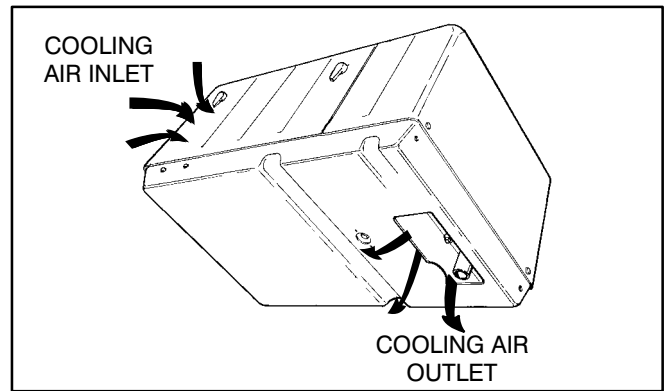

FIGURE 3. GENSET COOLING AIR INLET AND OUTLET OPENINGS
3. Locate or shield the genset cooling air openings (Figure 3) from direct rain, road splash and debris thrown up by the road wheels.
6. Genset cooling air (Figure 3) must not be obstructed.